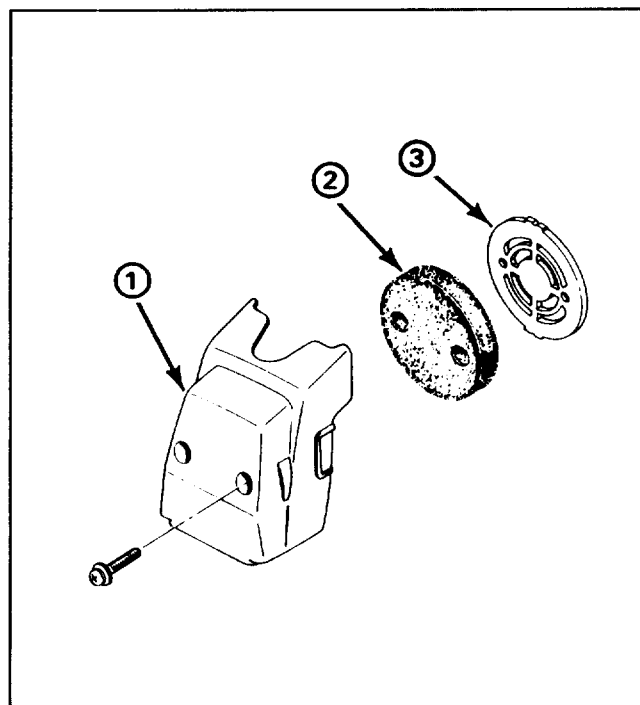

Figure 18
SERVICING AIR CLEANER (Fig. 18)
6. Reinstall air cleaner components as shown in Figure 18.
5. Reinstall air cleaner cover and air cleaner components to trimmer. See Servicing Air Cleaner, Figure 18 for component sequence.